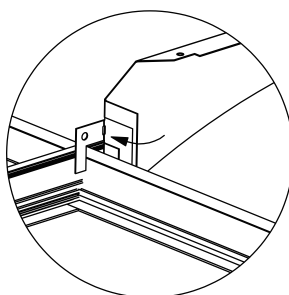

FIG. 1
1. Using the appropriate dimensions and fasteners as shown in Fig. 1, rough junction box and loosely secure the surface mount frame to the ceiling. Ensure the frame is square prior to fully securing the frame to the ceiling. Slots will allow for adjustment once the frame is attached.